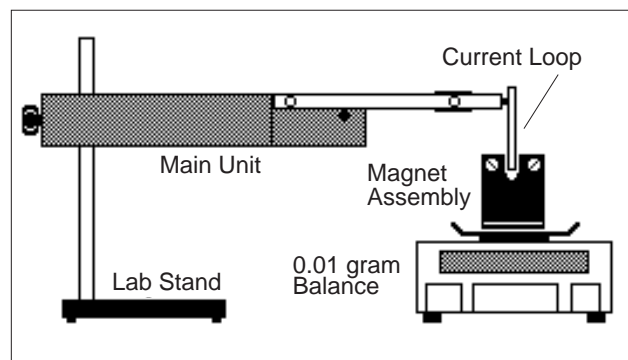

Figure 1.1 Equipment Setup
- ① Set up the apparatus as shown in figure 1.1.
- ② Determine the mass of the magnet holder and magnets with no current flowing. Record this value in the column under “Mass” in Table 1.1.
- ③ Set the current to 0.5 amp. Determine the new “mass” of the magnet assembly. Record this value under “Mass” in Table 1.1.
- ④ Subtract the mass value with the current flowing from the value with no current flowing. Record this difference as the “Force.”
- ⑤ Increase the current in 0.5 amp increments to a maximum of 5.0 amp, each time repeating steps 2-4.
- ② Place the magnet assembly on the pan of the balance. With no current flowing, press the TARE button, bringing the reading to 0.00 grams.
- ③ Now turn the current on to 0.5 amp, and record the mass value in the “Force” column of Table 1.1.
- ④ Increase the current in 0.5 amp increments to a maximum of 5.0 amp, each time recording the new “Force” value.